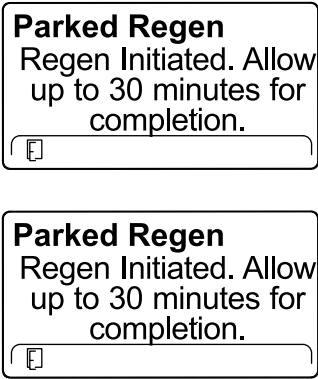

Figure 69
- The InfoCenter displays the time to complete message (Figure 69).